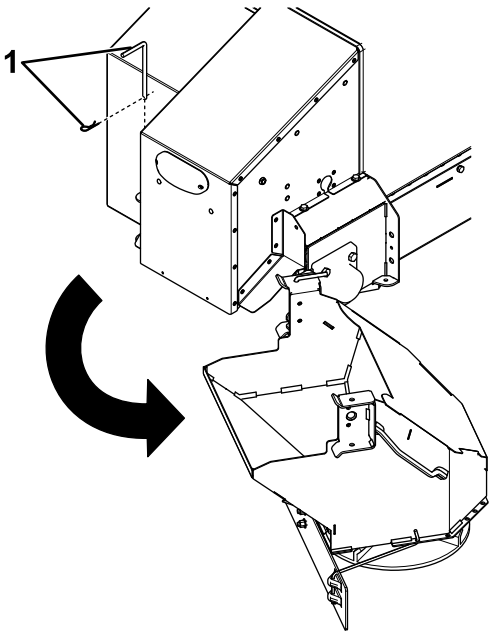

Figure 17
3. Remove the left latch and cotter pin from the spinner assembly (Figure 17).
- Swing the spinner assembly free from the hopper opening (Figure 17).